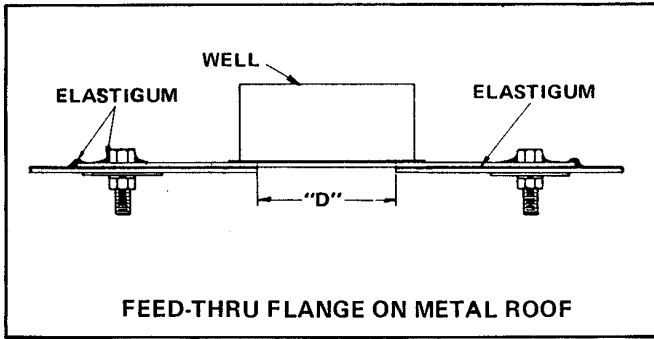

FIGURE 2
STEP 2. Drill mounting holes through roof or wall. For mounting flange to concrete, clear holes can be drilled through concrete or bolt anchors can be inserted at mounting hole positions. See Figures 2 and 3. Cut and remove center portion from metal or concrete for cable path.